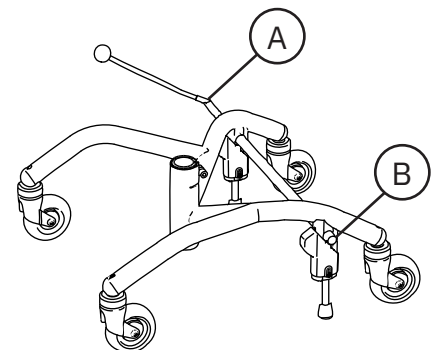

Figure 5.23. Brake lever.
The brake lever can be located on the right (A) or left (B) side of the base, see Figure 5.23.